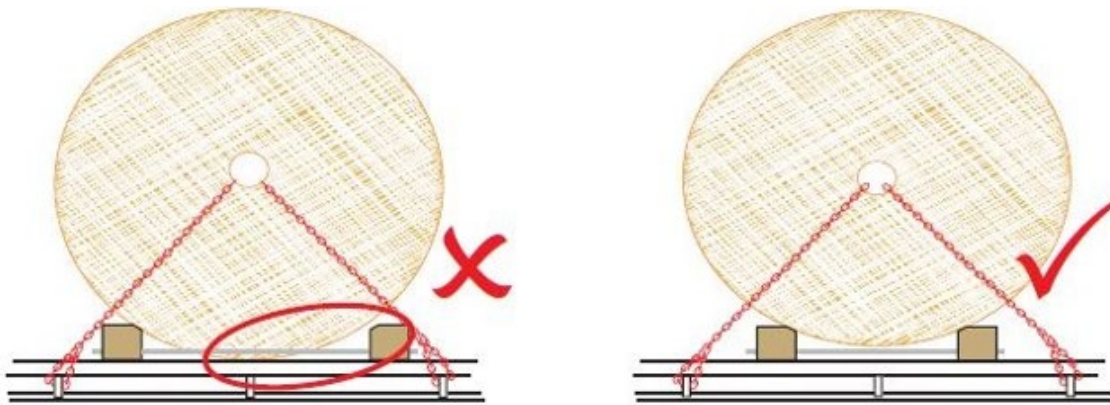

Figure 4: Reels must **NOT** touch the trailer deck. No steel-on-steel contact allowed.
- ✗ **DO NOT** allow reels to touch the trailer deck. See Figure 4. **No steel-on-steel contact allowed.**